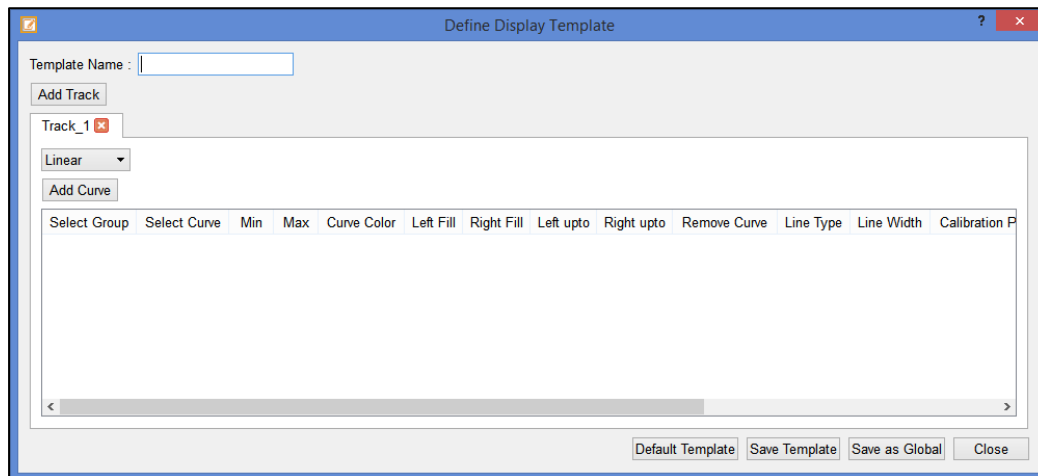

Figure 4.2 “Define Display Template” window.
Step 2: It will open the “**Define Display Template**” window as shown in figure 4.2. By default, 1st track will be added in template.